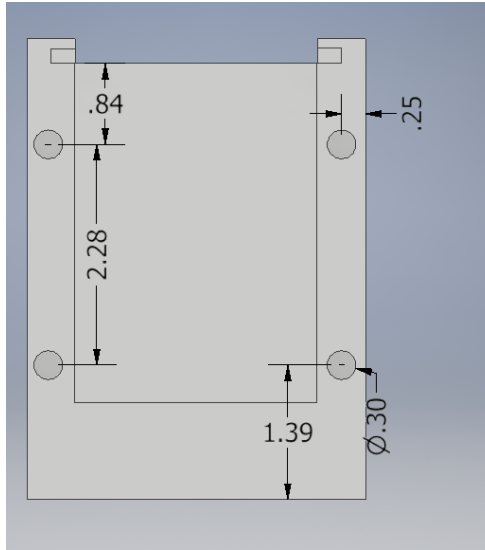

Figure 3-6
10. Draw a rectangle on the inside of the rectangles that were just extruded. The rectangles should be 2.75 inches long and .15 inches wide. These should be extruded .25 inches inwards. Also draw four .3 diameter circles shown in figure 3-6. The circles will be extruded .25 inches inwards. These will hold the cover in place.